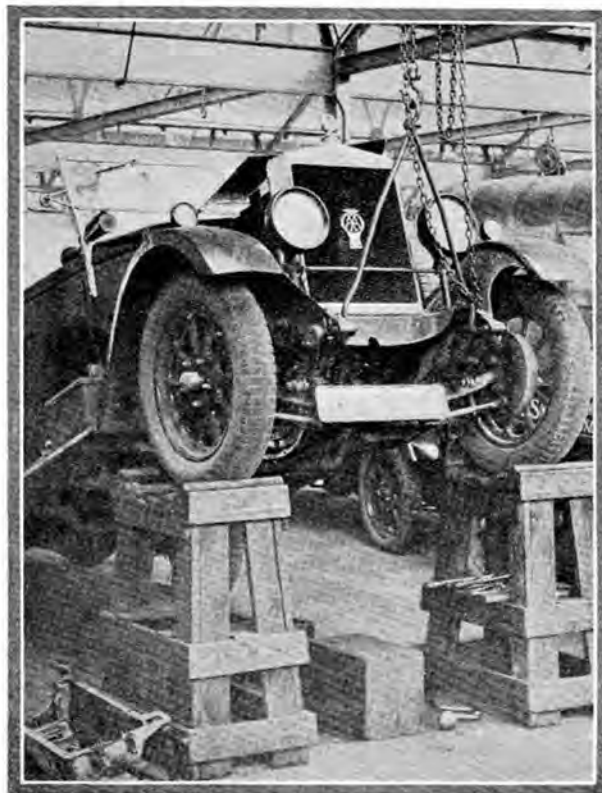

Fig. 3. The whole process is greatly simplified by hauling up the front of the car like this.
4. Raise front of chassis with lifting links and place stands, as shown in Fig. 3, under front wheels. Now remove engine trays, engine sump and steering column assembly. It is best to disconnect the steering drop arm at top end.